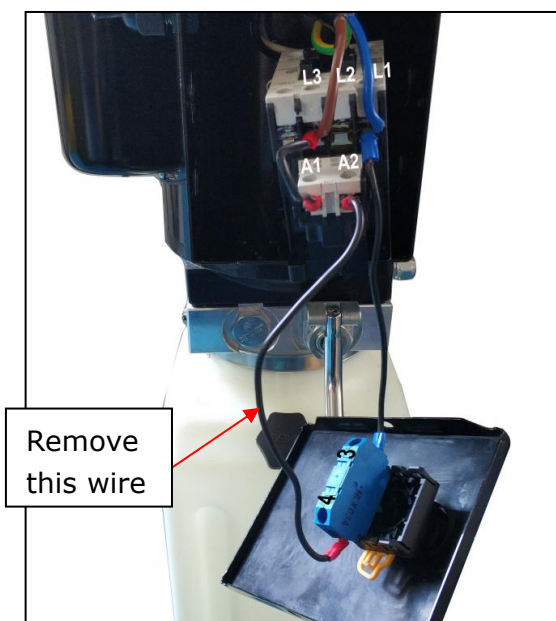
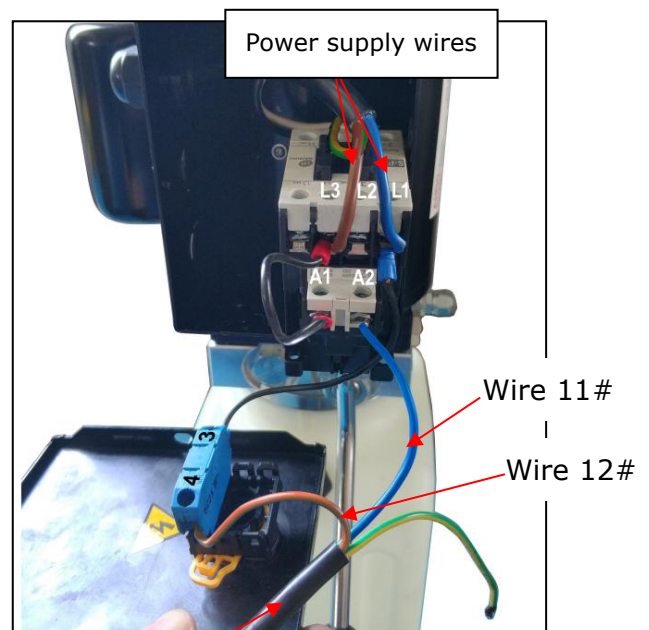

Fig. 24
Fig.25
- Connecting the limit switch: Removing the wire of connecting terminal **4#** of control button and **A2** of AC contactor firstly (See Fig. 24), then connecting wire **12#**(brown wire) of limit switch with terminal **4#** of control button and connecting wire **11#**(blue wire) with terminals **A2** of AC contactor respectively. Connecting the earth wire of limit switch to the earth wire terminal on the motor. (See Fig.25).